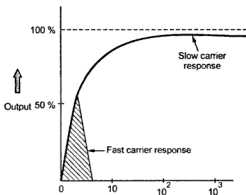

Fig. 3.2.4
- The diffusion process is slow and diffusion times are less than carrier drift time. By considering the photodiode response time the effect of diffusion can be calculated. Fig. 3.2.4 shows the response time of photodiode which is not fully depleted.